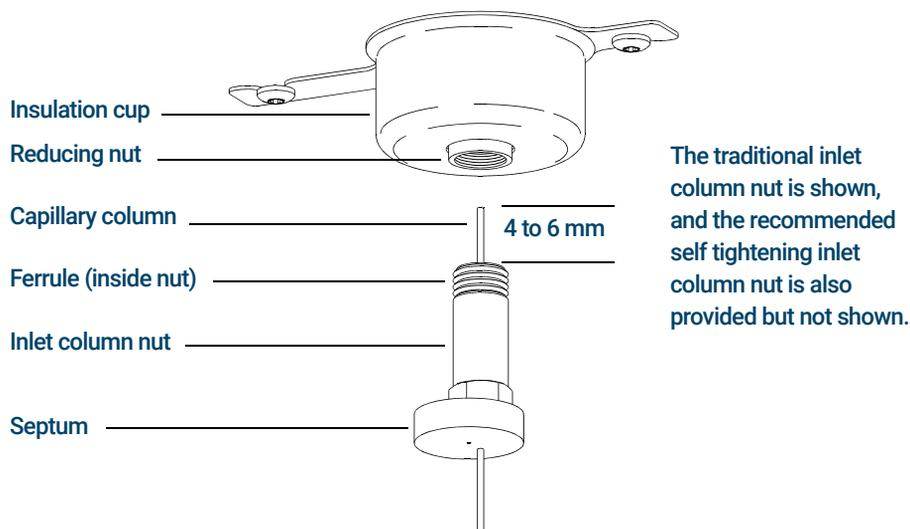

Figure 4. Installing a capillary column for a split/splitless inlet
- 7 Position the column so it extends 4 to 6 mm past the end of the ferrule. (See Figure 4.)